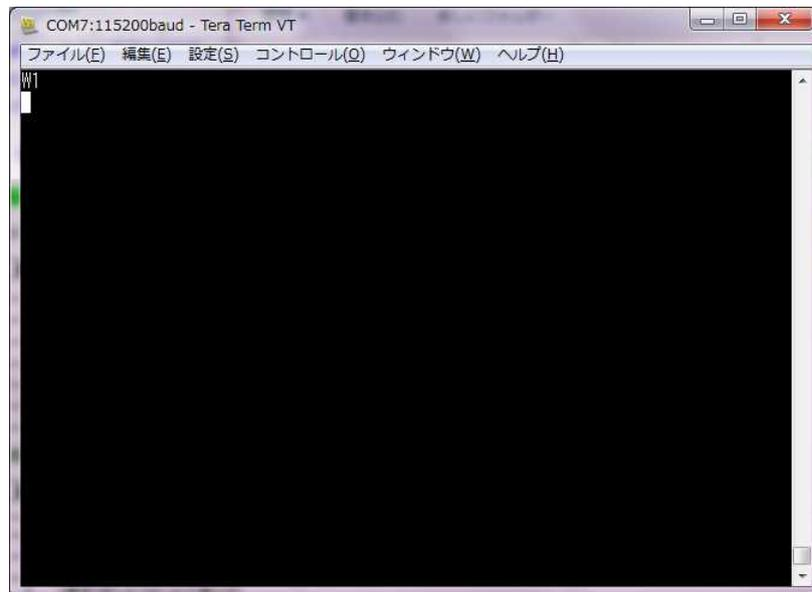

Fig. 6-2
- (1) Insert the microSD card into the PC.
- (2) Create the folder that “pixsbmp” in the root directory and copy the image data in the CD ROM to the folder.
- (3) Remove the microSD card from the PC and check if the LCDC board power is OFF. Then, insert the microSD card into the microSD card connector (CN2).
- (4) Turn on the LCDC board power and start up the communication software.
- (5) Input the characters “W1”, as shown in Fig. 6-2. Then, press the return key to transmit the characters.